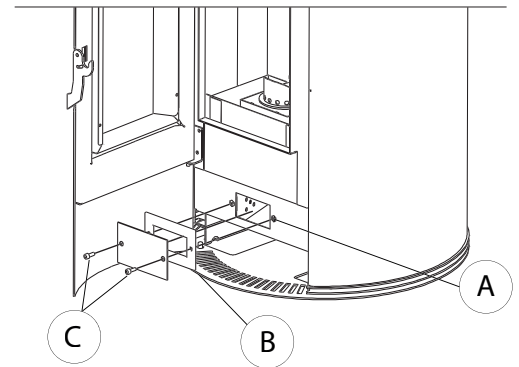

Fig. 6.1.2
- for easy access to the flue gas box (A), simply remove the lid (B) by adjusting the two screws (C) (Fig. 6.1.2).